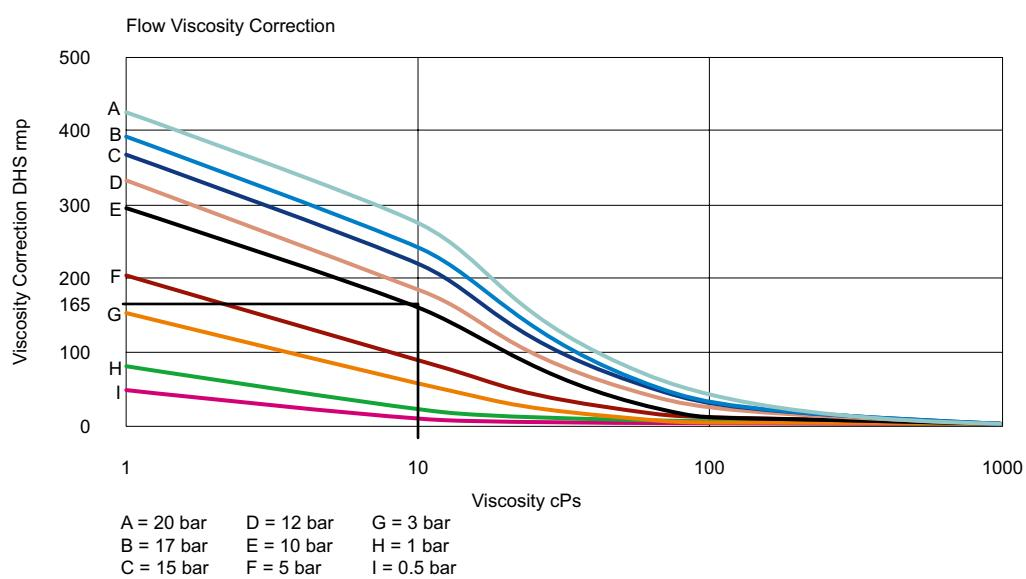

Fig. 7.6.3d
- Using the Flow Viscosity Correction curve (Fig. 7.6.3d), draw a straight line up from the 10 cps viscosity point on the x-axis until it intersects the (10 bar) pressure line